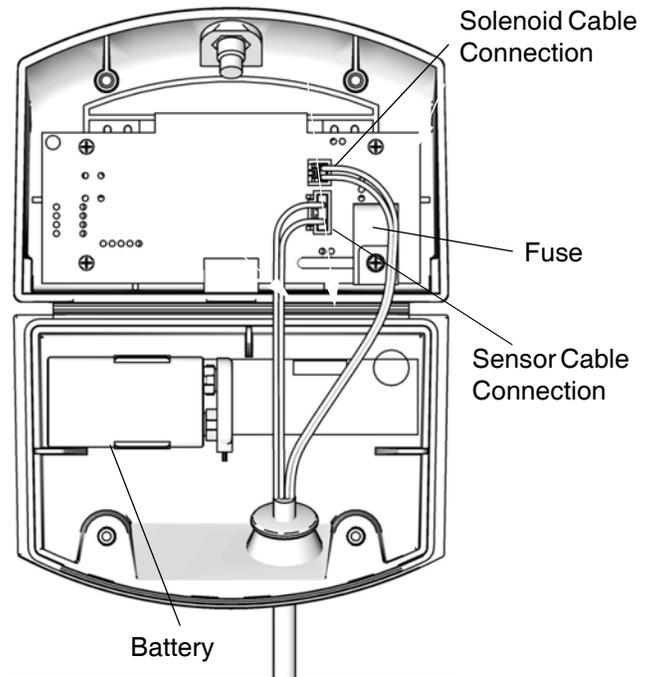

FIG. 20. DataTrak Battery and Fuse Location
5. Disconnect the used battery and replace with an approved battery. See FIG. 20.